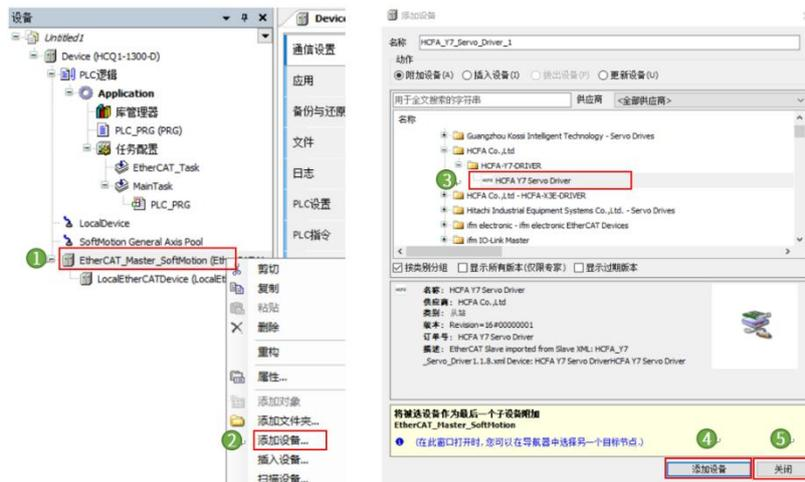

Figure 13-9 Y7S servo adding
3. Right-click [EtherCAT\_Master\_SoftMotionm] and select [Add Device]. Select [HCFA Y7 Servo Driver] in the pop-up screen, click [Add Device], and click [Close] after adding, as shown in Figure 13-9. If there is no [HCFA Y7 Servo Driver], please add the corresponding XML.